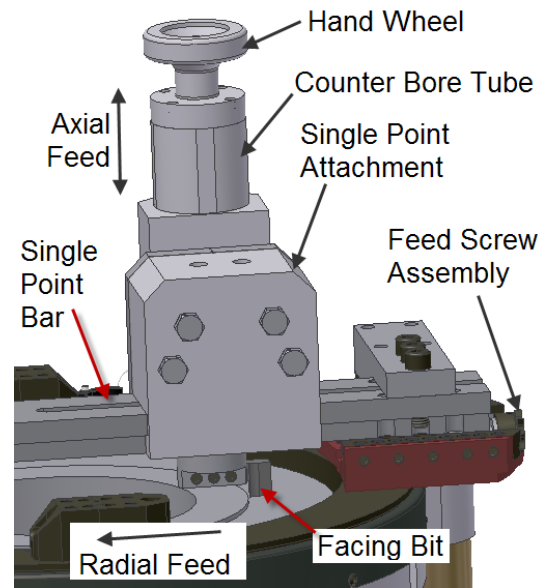

Figure 13
The single point attachment (see Fig 13) comes with either a 6" or 10" long counter bore tube. The single point attachment can also be used for ID boring, OD beveling and flange face grooving.
- Square and center the Clamshell on the work piece. Disengage the tripper pin. Remove the cap from the tool blocks on both slide assemblies. Remove the feed screws assembly from one slide assembly. Bolt the swivel head attachment to the tool block with the slotted end of the bar pointing toward the slide assembly that has the feed screw assembly (see Fig. 13).
- Insert the facing bit into the bore bar. The cutting side of the bit should face the set screws in the bar (see Fig. 13). Adjust the counter bore tube height and lock into place. Slide the single point attachment into position along the bar and tighten the 2 set screws to lock it in place. Tilt the counter bore tube to the desired angle and lock by tightening the 4 hex bolts on the single point attachment. Use the star wheel wrench and the hand wheel to radially and axially position the tool bit at the edge at the outer wall of the flange. Install the motor.